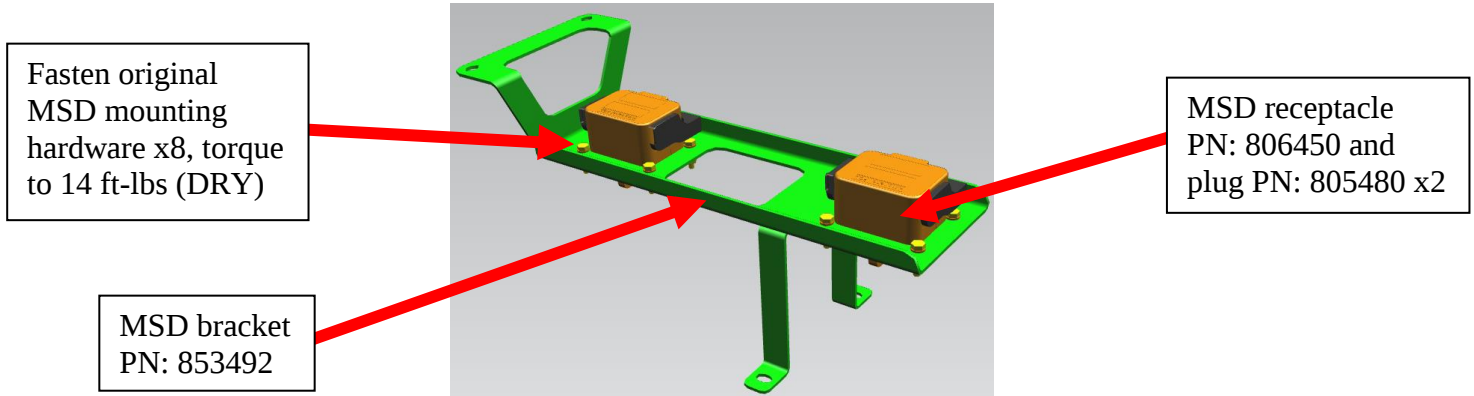

Figure 15: Rear ESS MSD bench assembly
4.3 Bench assemble new rear ESS MSD. See figure 15.